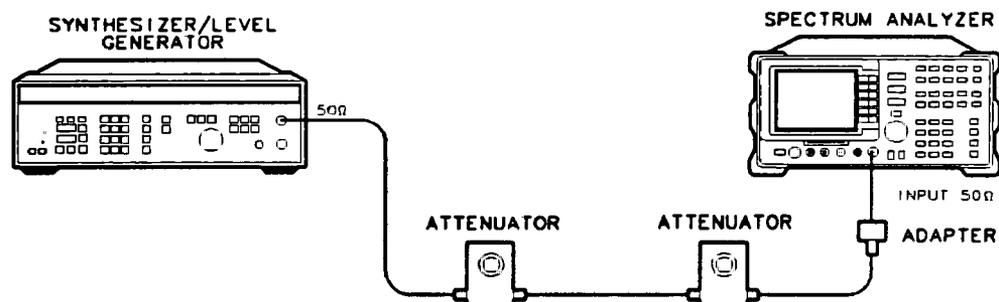

Figure 4-8. Scale Fidelity Test Setup
2. Connect the equipment as shown in Figure 4-8. Set the HP 355D to 10 dB attenuation and the 355C to 0 dB attenuation.